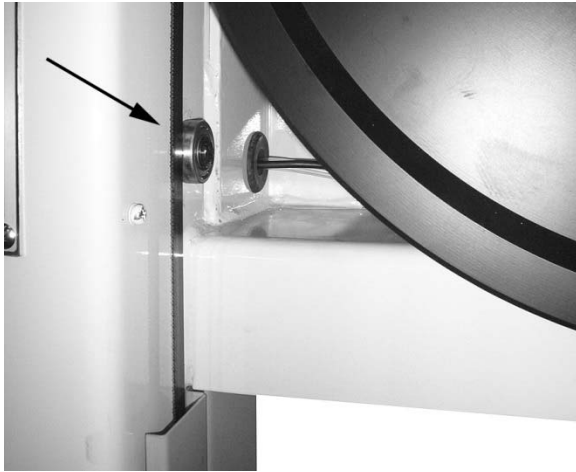

Figure 11
7. Verify that blade rests against ball bearing (Figure 11), not behind it.